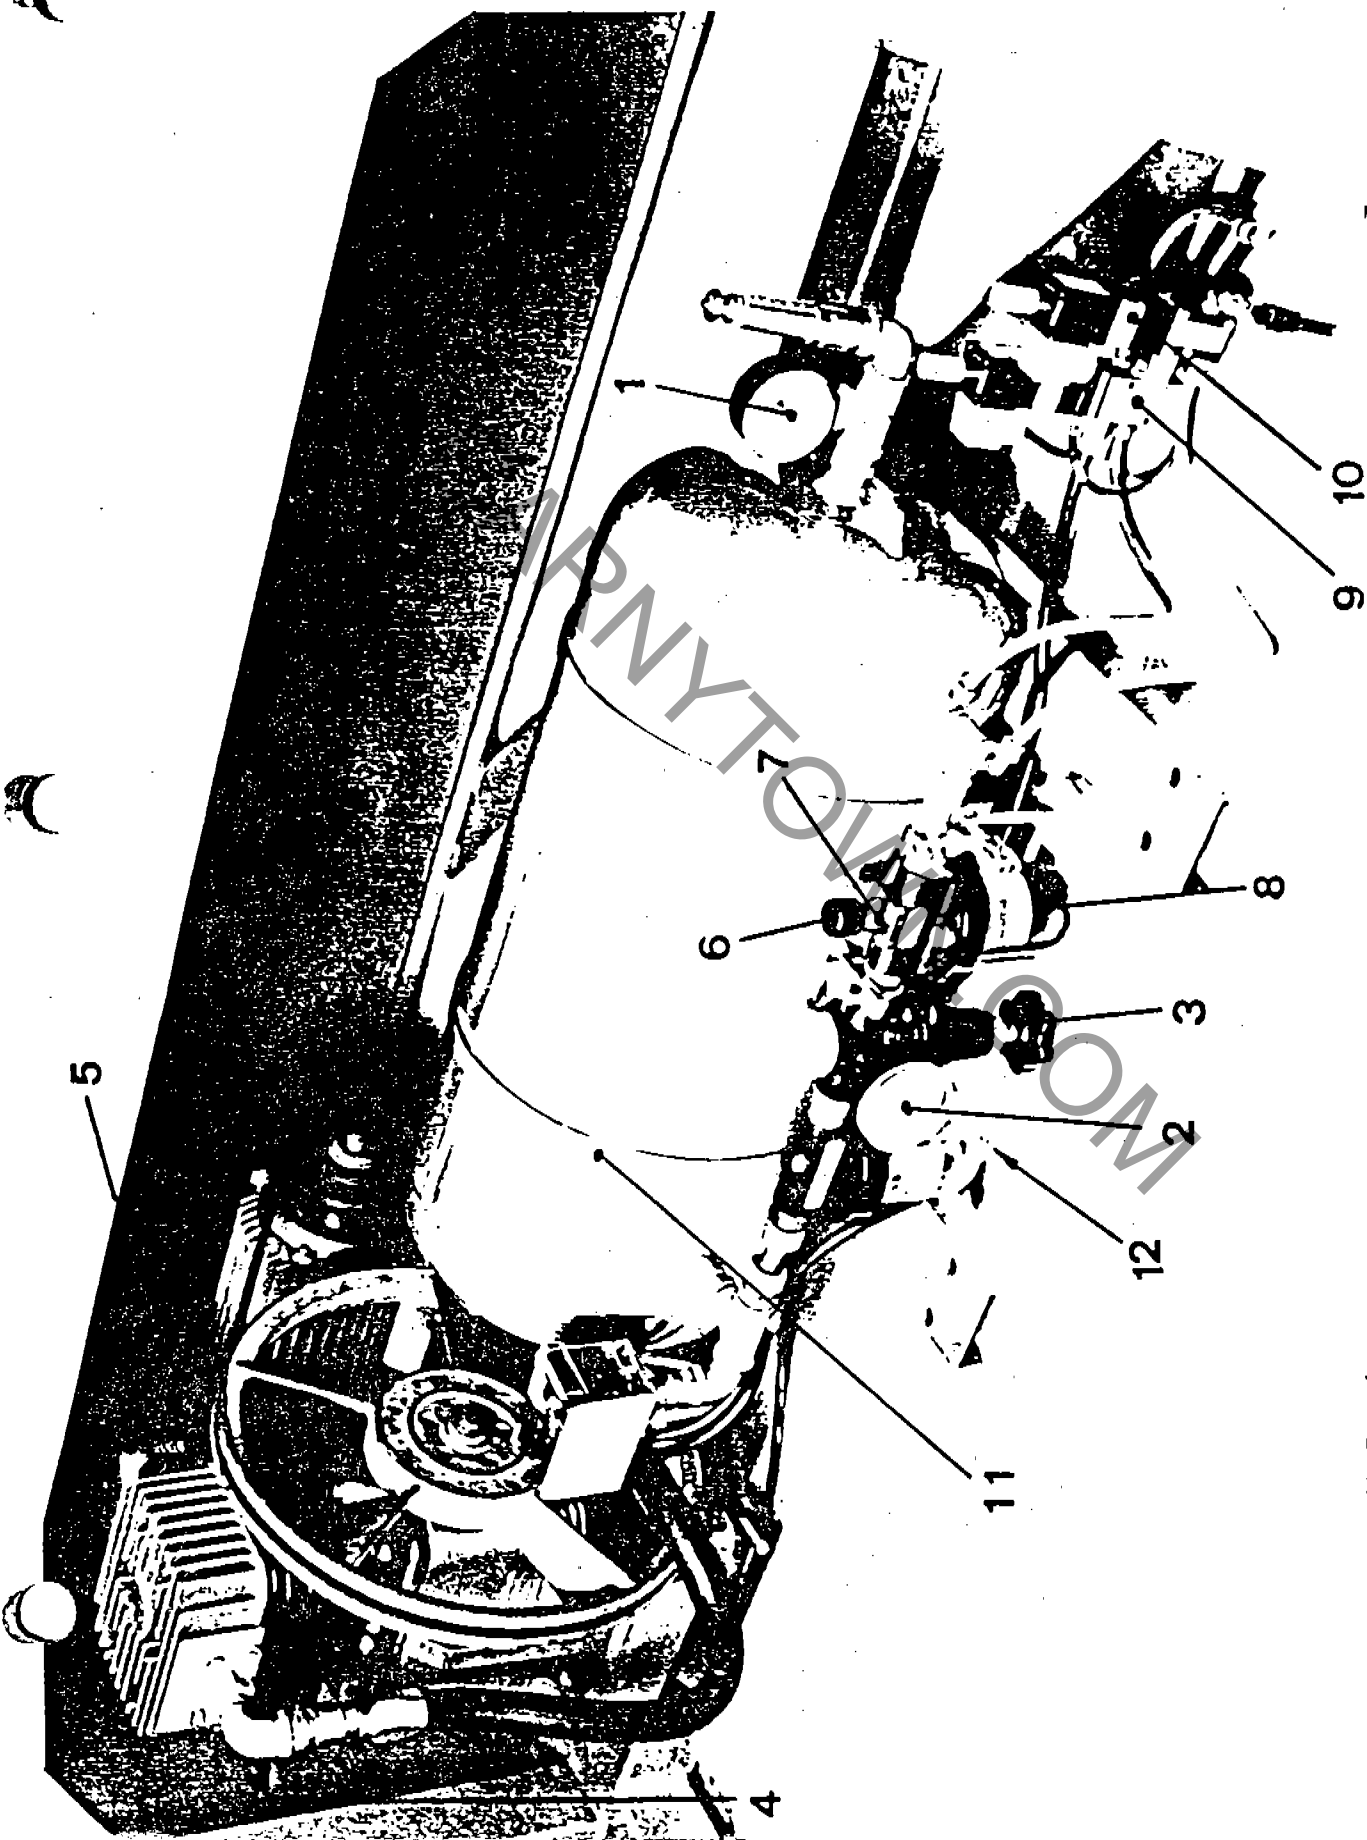

FIG. 4
- Oil level in the compressor (4 fig. 4)